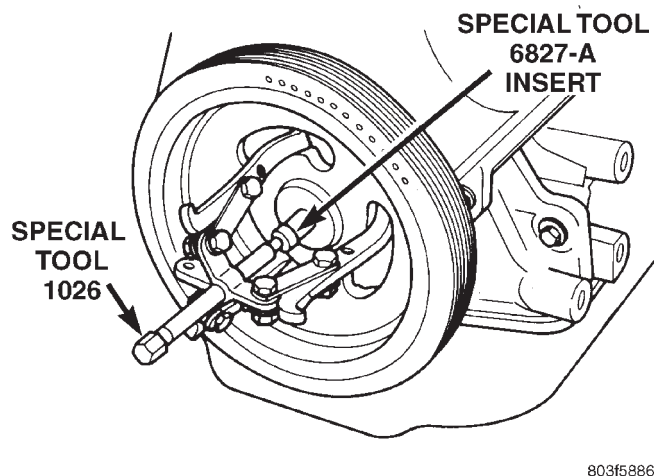

Fig. 48 Crankshaft Damper—Removal
(3) Remove crankshaft damper bolt. Remove damper using the large side of Special Tool 1026 and insert 6827-A (Fig. 48).